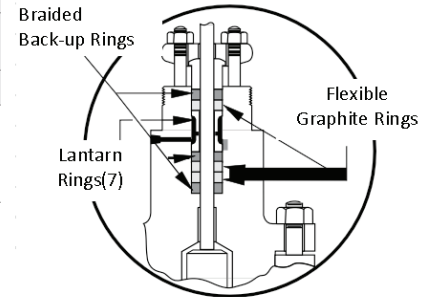

Figure 7 - Packing Ring arrangements with optional Lubricator Connection
Note: On valves equipped with an optional lubricator connection, refer to Figure 7 for correct amount of rings to place under the lantern ring (7).
- E. Replace packing follower (5) and packing flange (4).
- F. Replace and tighten packing stud nuts (3).
Note: On valves equipped with an optional lubricator connection, refer to Figure 7 for correct arrangement according to valve size.